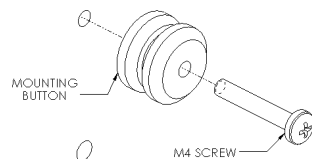
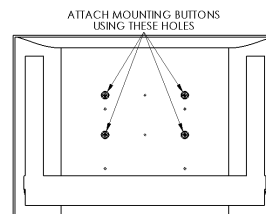

Figure 2
Figure 3
1. Using the M4 x 25mm Phillips head cap screws, attach mounting buttons directly to back of display (four places) (see Figure 2 & Figure 3). Do not over tighten screws.